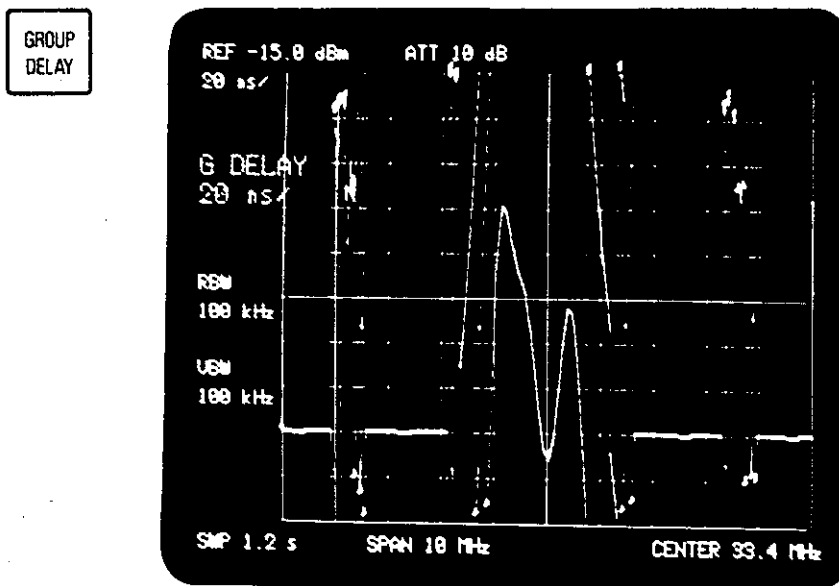

Fig. 7-9 Group delay measurement
- ⑪ If phase overflow occurs in the pass band due to the increased phase resolution, press the (G.D. OFFSET) key to activate group delay offset. Then adjust the phase slope in the pass bandwidth with the DATA knob.
- ⑫ The group delay of the device under test can be observed by pressing the GROUP DELAY key (Figure 7-9).
- ⑬ For more precise group delay measurement, write the group delay of the through response into trace memory A at the same resolution (See 7-1 (5), (6)), bring the display line close to the through response trace, then press the SHIFT and MHZ keys to eliminate the the group delay of the measuring system itself. Use of the averaging mode (See 7-1 (8)) will provide still more precise measurement.
- ⑭ If a greater signal-to-noise ratio is desired, press the VIDEO BW key to narrow the video bandwidth. At this time press the SWEEP TIME key and select a relatively long sweep time.